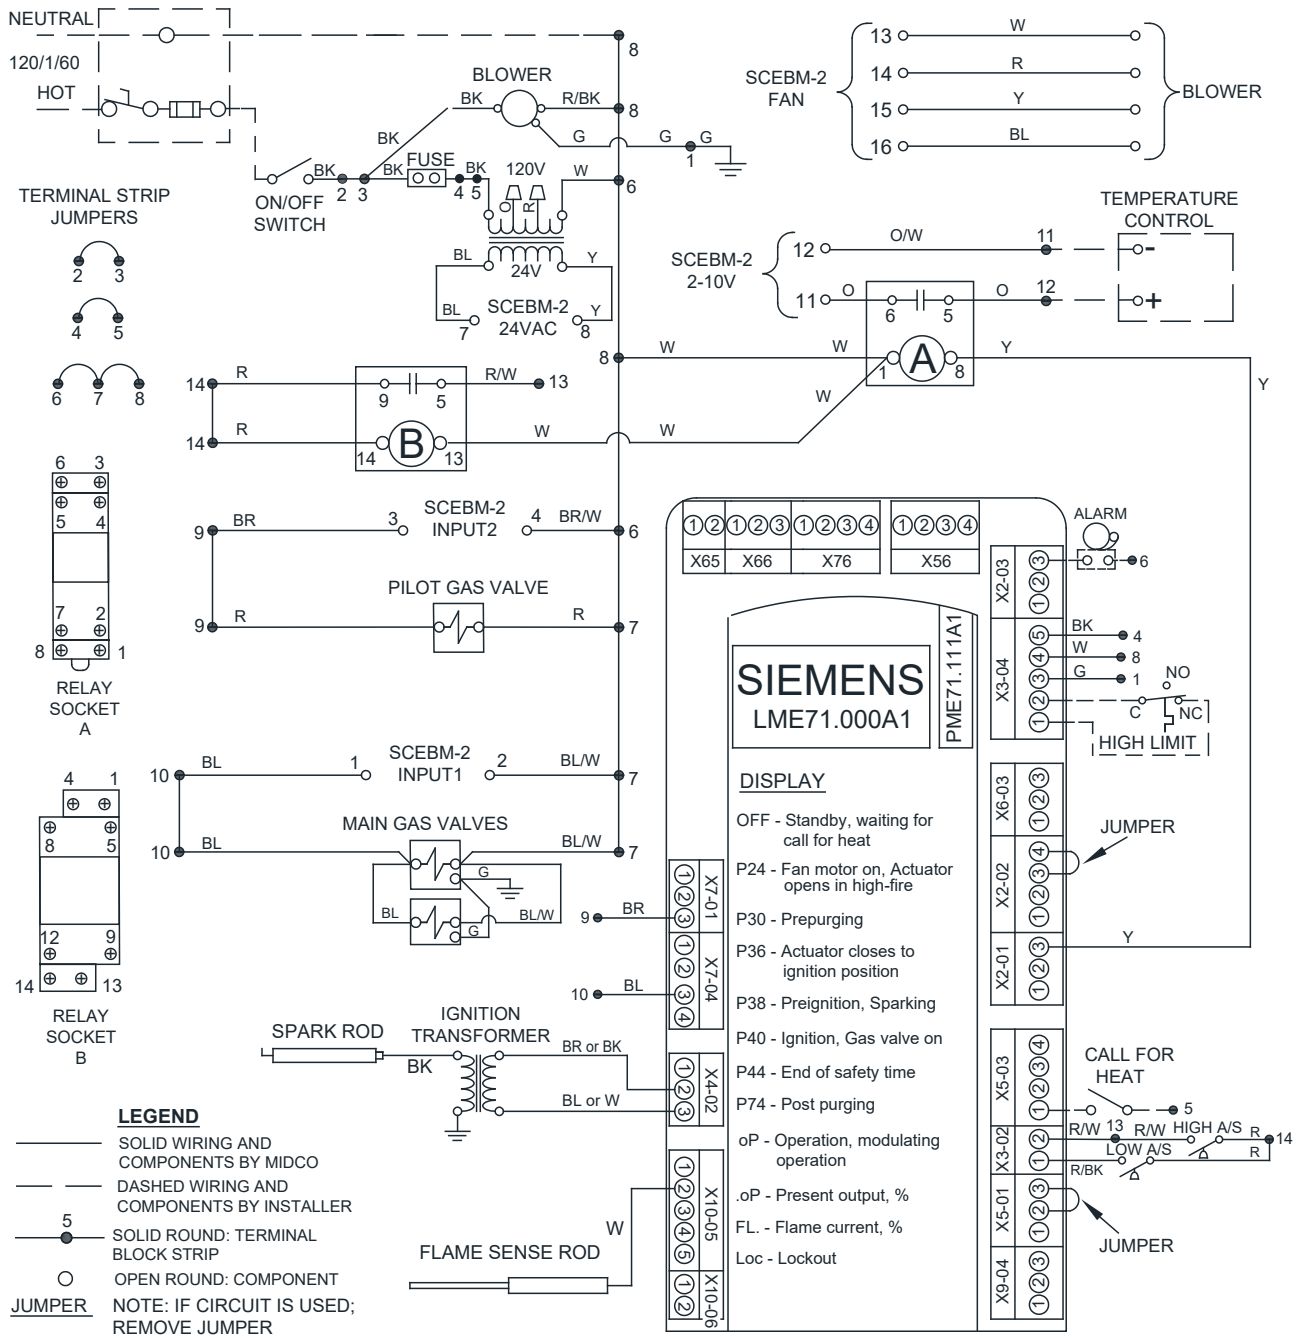

Figure 4C: Wiring Diagram for the VA series models
- for **Siemens control** - hot wire to strip terminal 3, neutral 6—and that the neutral line is not subject to induced low voltage (check 6 to 1 earth ground) (refer to Figures 4C and 4D) ...
- for **Siemens control** - 120V (On Off switch), 8 (Neutral), and 1 (Ground) (refer to Figures 4C and 4D).
- for **Siemens control** - positive 10 (+) and 9 negative (-) (refer to Figures 4C and 4D).
- for **Siemens control** - 8 (Blue), 5 (Blue/White) and 1 (Green) (refer to Figures 4C and 4D).
- for **Siemens control** - terminal 3 to Siemens X5-03 1 (refer to Figures 4C and 4D).